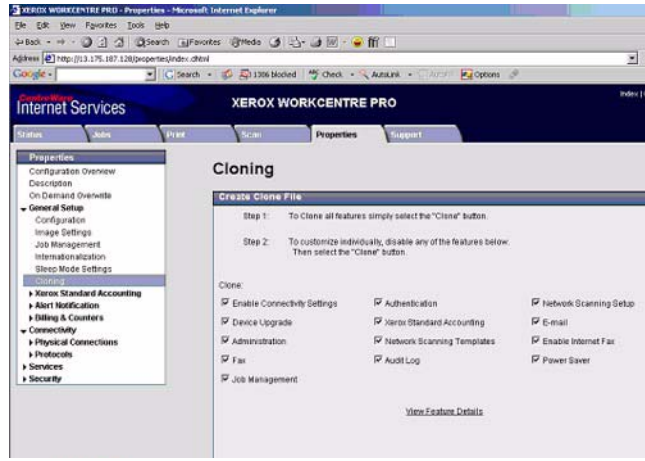

Figure 1 Cloning Screen
- When the **Centreware® Internet Services** window opens, select the **Properties** Tab. Click on the **General Setup** link, then the **Cloning** link (Figure 1).
- Select the **Clone** button under the **View Feature Details** link (Figure 1).
- When the **Centreware® Internet Services** window opens, select the **Properties** Tab. Click on the **General Settings** link, then the **Cloning** link (Figure 1).